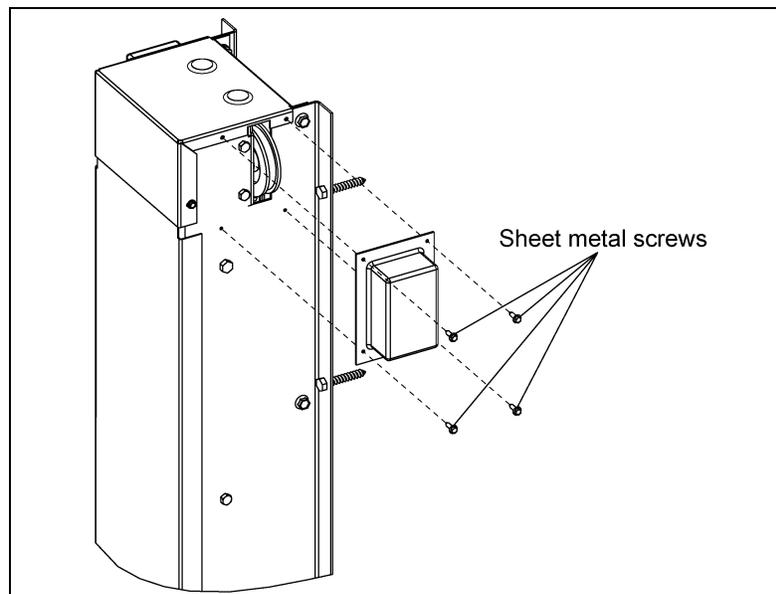

Figure 5B
**Step 4:** Remove existing sheet metal screw. (See Figure 5B for pulley cover fastening.)